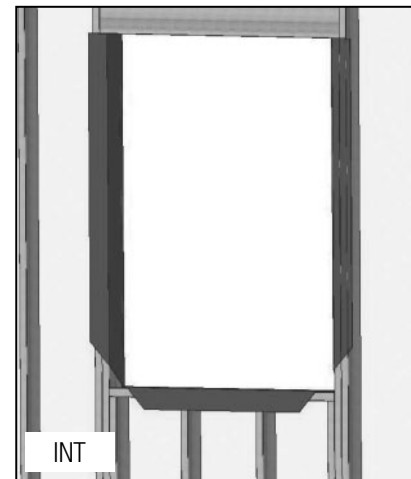

FIG. 6
- F) Fold back the WRB on the sides and sill toward the interior and staple into place. (Fig. 6)